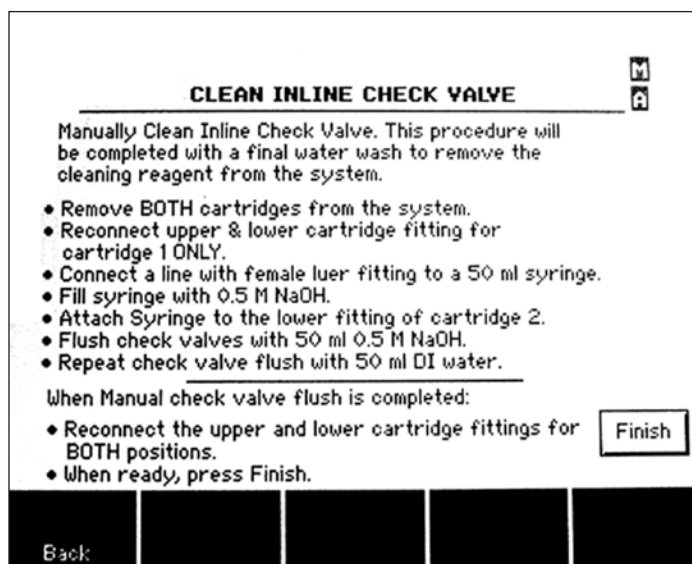

Fig. 9.15. Clean Inline Check Valve screen.
4. Follow instructions displayed on the screen (Figure 9.15).